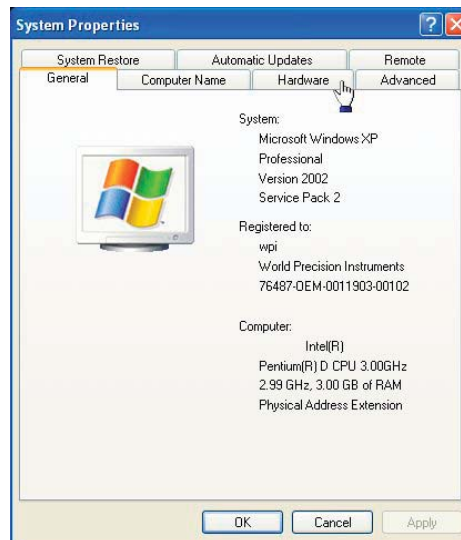

Fig. 54—(Left) System Properties, General tab
2. Double click on the **System** icon. The **System Properties** dialog box appears (Fig. 54).